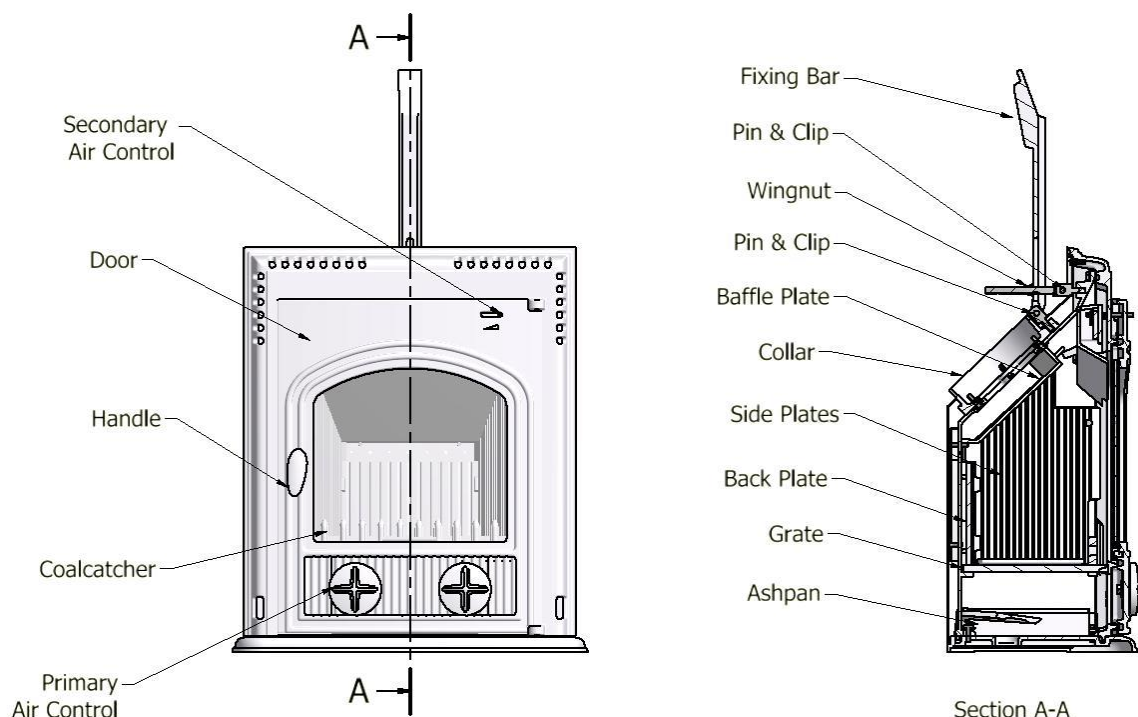

Fig 2 – TR7i Stove Assembly and controls
- Secure the fixing bar and the tightening screw to the stove as shown in fig. 2. Do not put on the wingnut until the stove is in place.